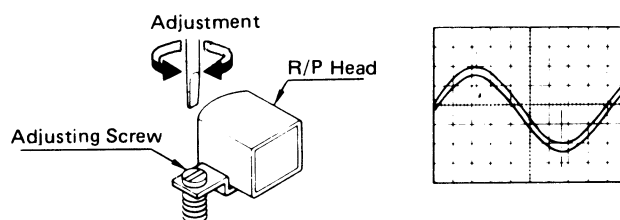

FIG. 9 AZIMUTH ADJUSTMENT
- Adjust the azimuth adjustment screw of left side of record/play head for maximum output and for the same channel phase. (see Fig. 9)